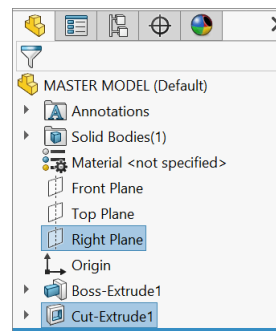

Fig. 15
Step 1. **Ctrl click** **Right Plane**  and **Cut-Extrude1**  feature to select plane and feature, **Fig. 15**.